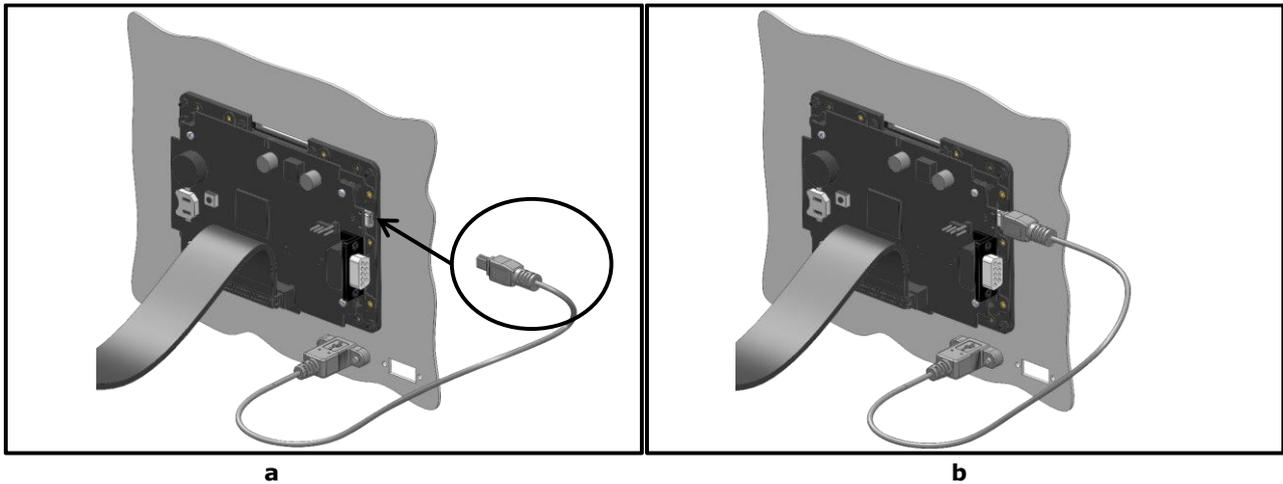

Figure 89. Ultra-Thin Mini-B Extension Cable display connection.
- 3 Connect the mini-USB connector to the display as shown in Figure 89(a) and (b).